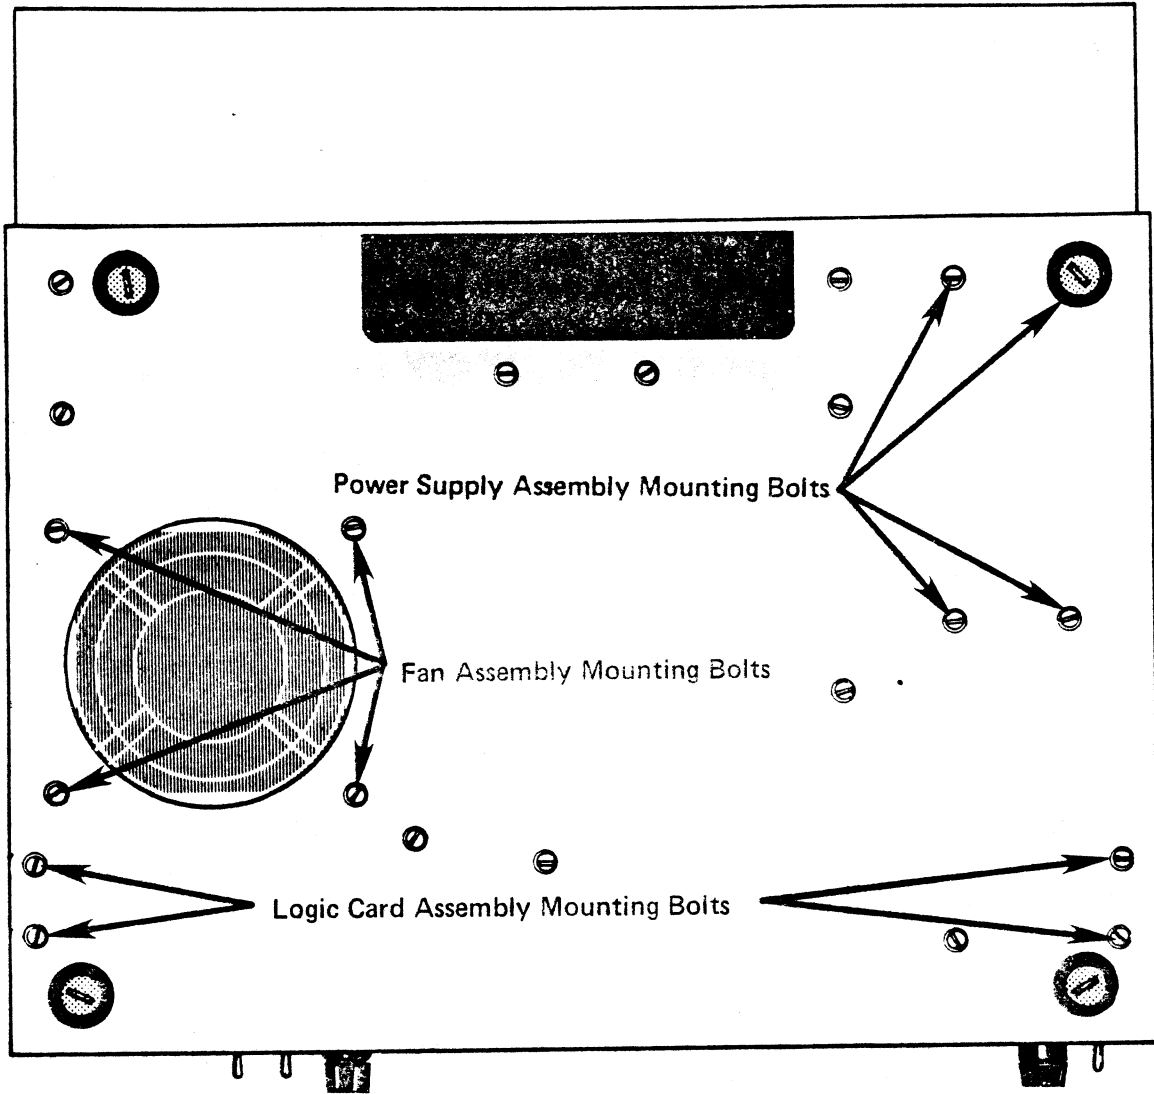

Figure 5-10
- e. Remove the three large (No. 10) bolts located on the bottom that secure the POWER SUPPLY to the terminal base (see Figure 5-10).
- d. Turn Terminal on its side, and locate and remove four bolts attaching fan to base (see Figure 5-10).
- j. Remove the four bolts at the right rear and left rear of the terminal base that hold the upright supports for the MDS-CRT LOGIC CARD to the chassis (see Figure 5-10). Care should be taken to support the LOGIC CARD so no damage will occur when it is freed in the terminal.
- m. Remove the two bolts connecting the keyboard (PI) extension cable connector to the logic card and disconnect their coupling.